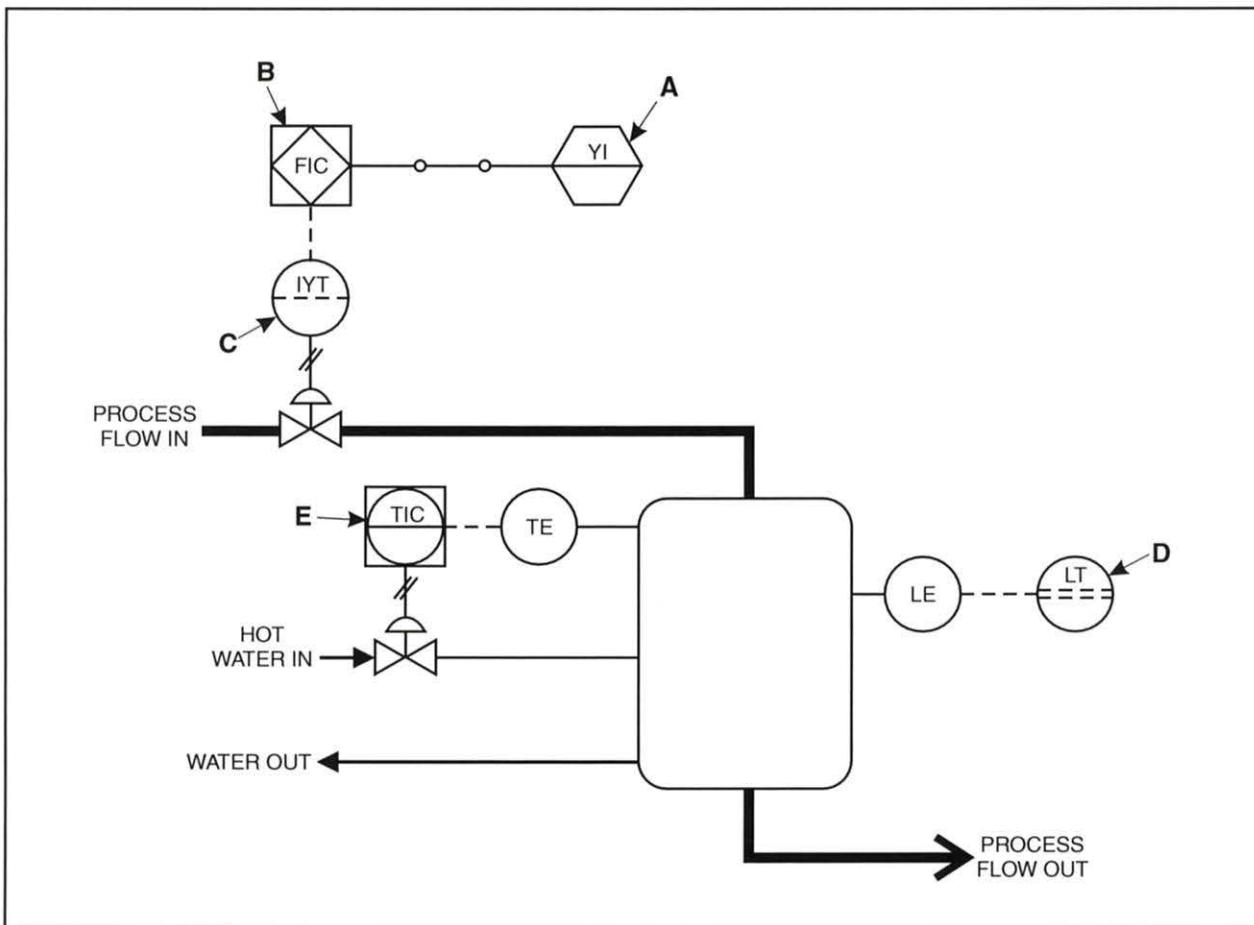

Figure 40. Temperature Control P&ID
□11. Determine the instrument information for each tag identified in figure 40.